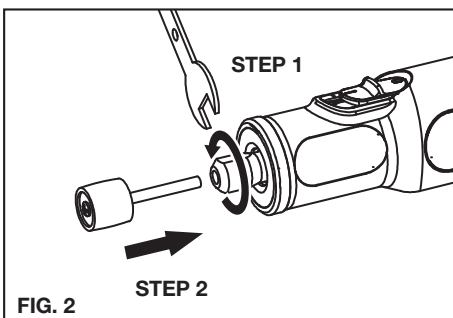

FIG. 2
2. Insert the new part/bit through the center of the collet nut into collet to the proper position (Fig. 2), and then secure the collet to the tool.